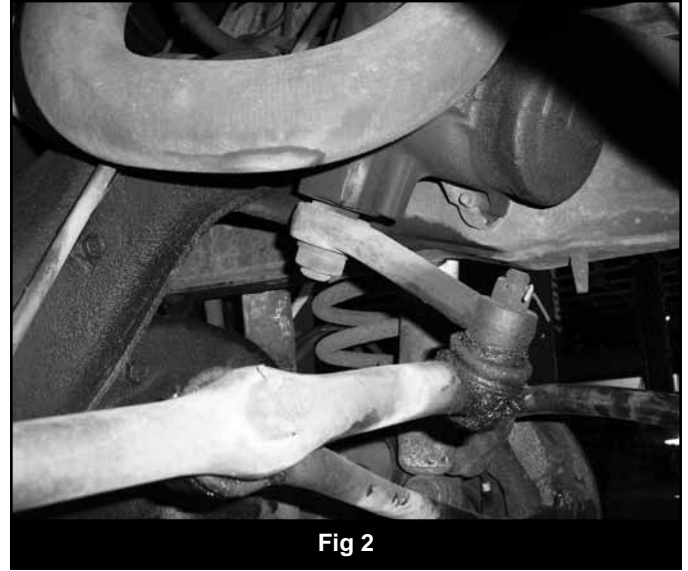

Fig 2
5. Disconnect steering linkage from pitman arm, retain nut. (Fig 2)